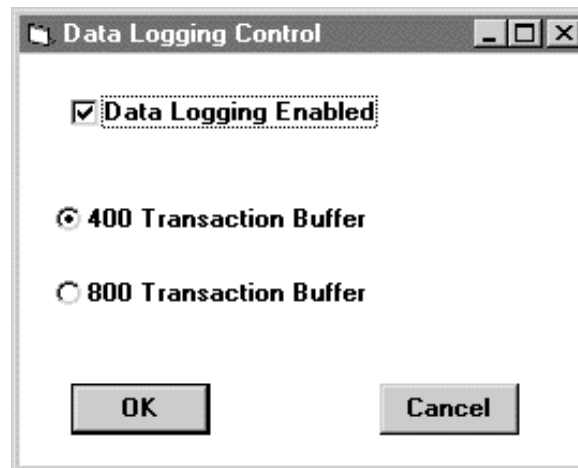

Figure 5.6.2.14
a) After selecting the **Data Logging Control** per section 5.6.2.1, the following *Data Logging Control* window (Figure 5.6.2.14) will appear: